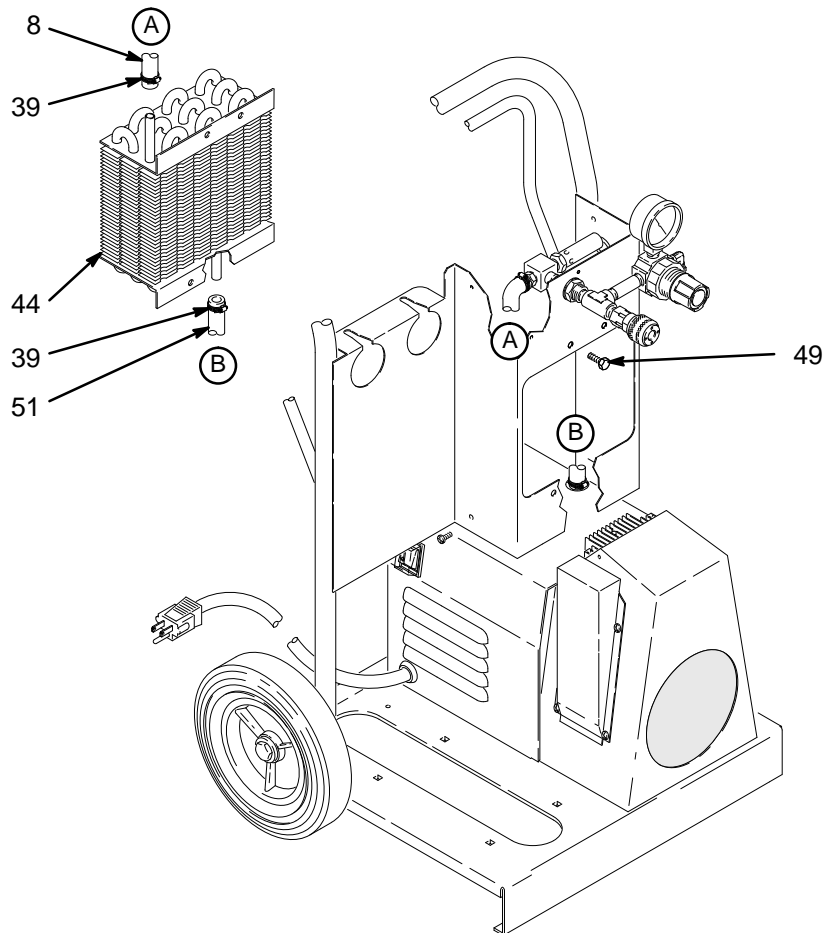

Fig. 15
6. Loosen the clamp (39) on the hose (51) and remove the hose from the cooler (44). See Fig. 15.
7. Remove the hose (8) from the cooler. See Fig. 15
8. Remove the screws (49) and cooler (44). Inspect and replace the cooler, if necessary. See Fig. 15.